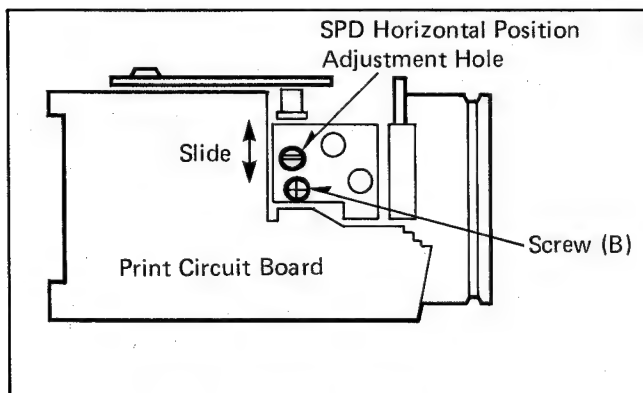

Fig. 9 SPD Horizontal Position Adjustment
6. Loosen a screw (B) and adjust the SPD horizontal position adjustment hole so that the priode (A) on the waveform is minimized as shown in Fig. 9, 10.